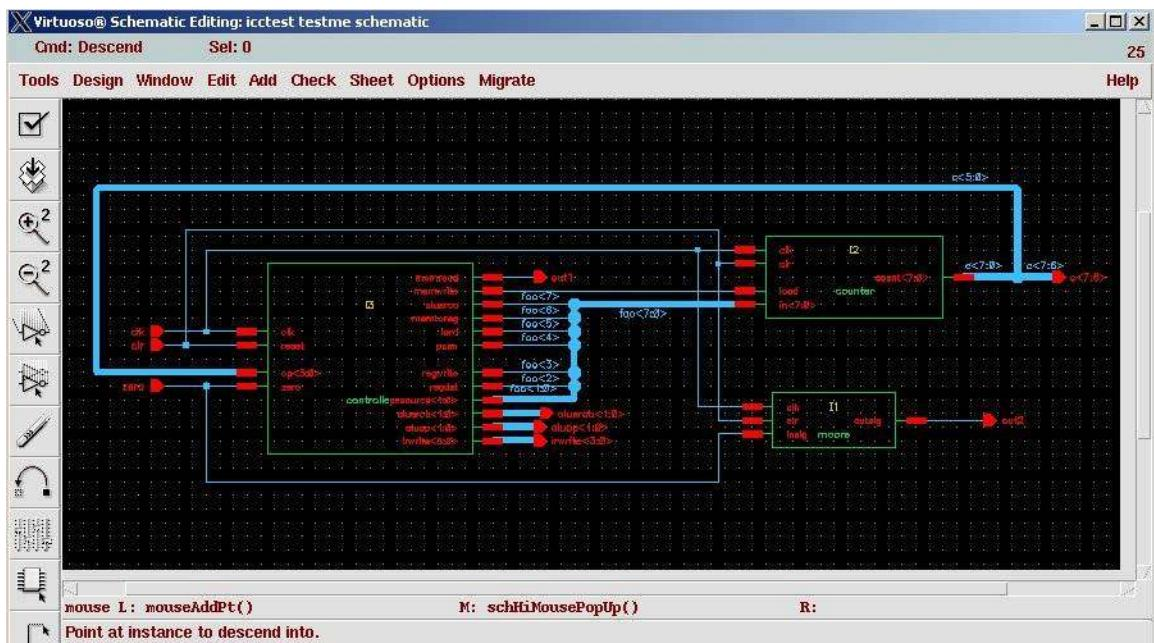
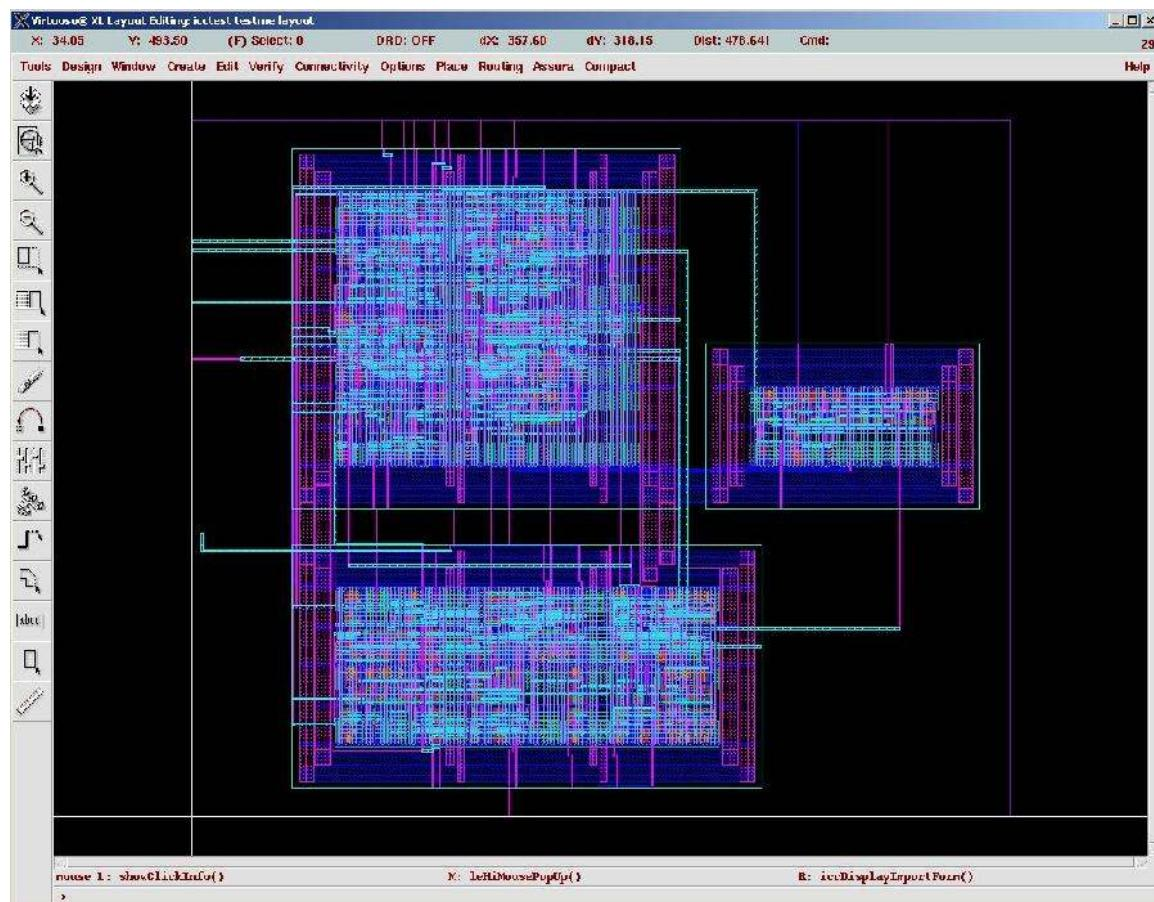
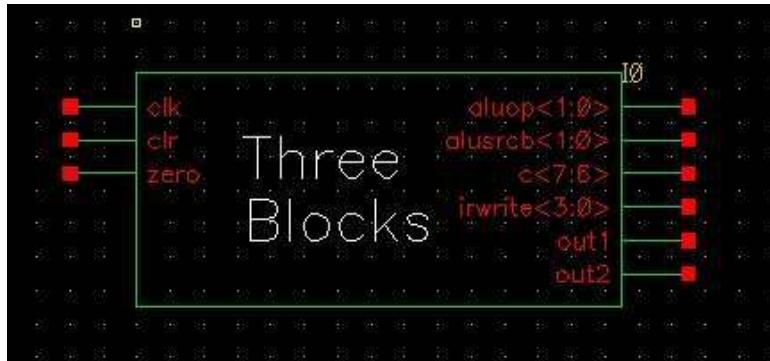

Figure 11.1: Starting **schematic** showing the three connected modules
Figure 11.10: Final routed circuit (shown in **Virtuoso** window)
Figure 11.11: Symbol for the **Three Blocks** example core
will connect everything. For this example I'll take three modules that I've previously placed and routed with **SOC Encounter**: the **moore** example from Chapter 8, the **counter** example from Chapter 10, and the **controller** state machine from the MIPS example in the Harris/Weste CMOS textbook [1]. Connecting these cells together makes absolutely no functional sense, but it does show how three pre-assembled modules can be connected together with **ccar**. Each of these three examples has been imported into **icfb** using the procedure described in Chapter 10, Section 10.1.12. This means that I have (among other things) **layout**, **schematic**, and **symbol** views of each of these modules that I can use to make my new schematic as a starting point. The example starting schematic is shown in Figure 11.1. Note that this **schematic** can be in a whole new library if you like in order to keep things separated.
6. You also need to remove notches. These are little gaps in the routing that got left in because of corners being turned, or other features of the routing. Select **Autoroute** → **Postroute** → **Remove Notches**. The final routed circuit is shown in Figure 11.10.
For this example, I'll start with a core made up of the three blocks from the previous Section which were placed by hand in **Virtuoso-XL** and routed by **ccar**. Your core may be completely placed and routed by **SOC**, or it might include blocks routed by **ccar** or it might be completely custom. The point is to start with a completed core. A complete core should have (at least) **layout**, **schematic**, and **symbol** views, should have **vdd!** and **gnd!** connected in the core, and should pass DRC and LVS. The three-block example from Section 11.1 has all of these characteristics. The layout was seen in Figure 11.10 and the schematic in Figure 11.1. The symbol was created using **Design → Create Cellview → From Cellview** and is seen in Figure 11.11.